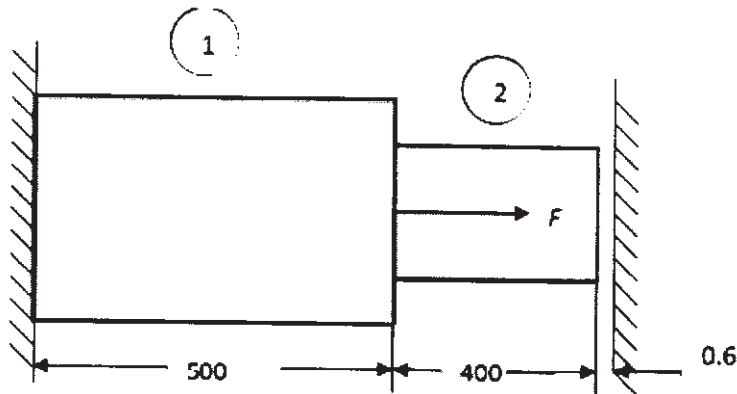

Fig. 2
- Q4) a)** By using FEA for a bar shown in Fig.2. Determine nodal displacements, element stresses and reactions forces. [8]